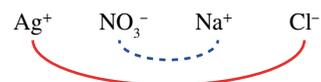

FIGURE 15.4.4 Working out which compound is the precipitate in a reaction
- Then draw two lines. The first line joins the positive ion of the first solution to the negative ion of the second. The second line joins the negative ion of the first solution to the positive ion of the second (Figure 15.4.4).
- 3 Represent the process of precipitation with a diagram similar to that shown in Figure 15.4.4 on page 479 for the reaction between lead(II) nitrate and sodium hydroxide.